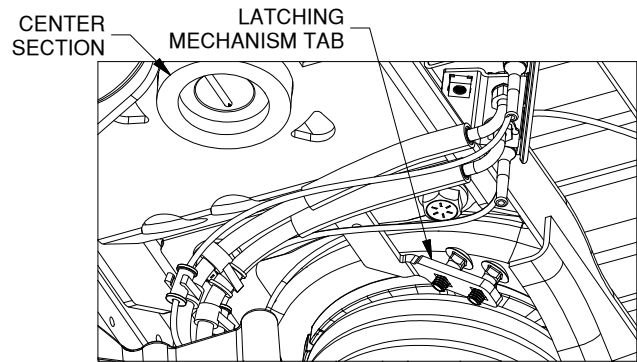

FIGURE D1: Looking up at center section
- 1. Install bolts.** Retract the latching mechanism by pulling on the tab with the square holes and pushing it toward the cab. From the top down, insert a 3/8 carriage bolt in each of the square holes in the latching mechanism, see Figure D1.